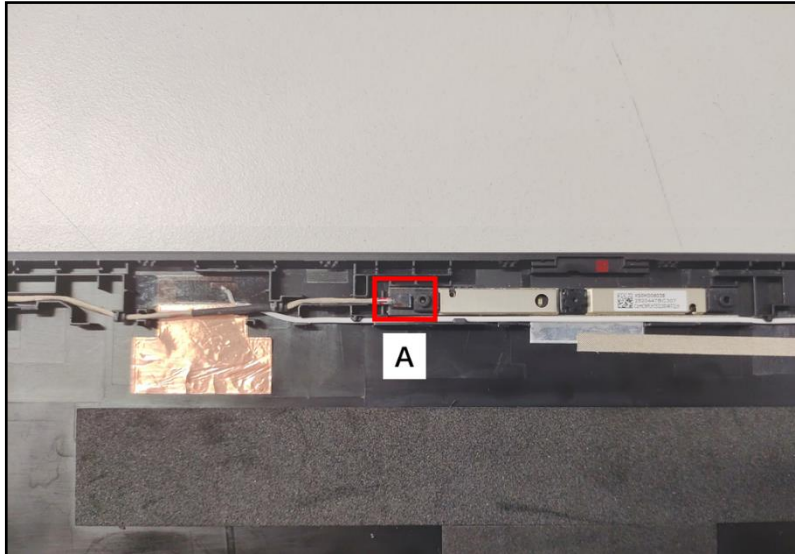

Figure 3-71. Replacing the eDP Cable
1. Connect the EDP cable to the CAM Module connector (A) (Figure 3-71).